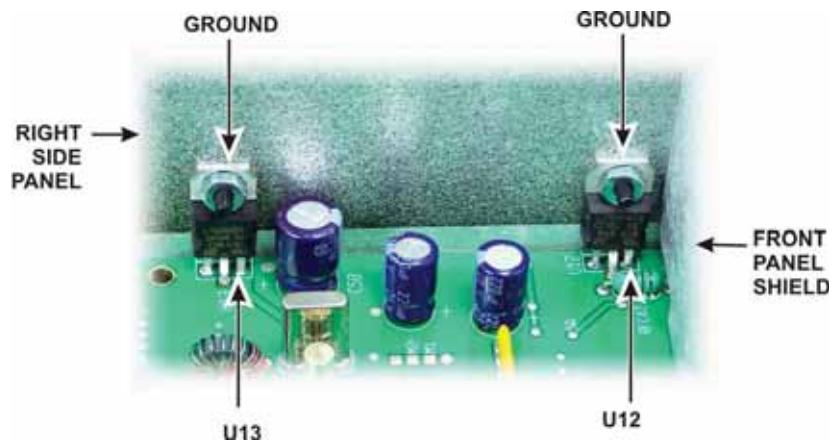

Figure 66. U12 and U13 Test Points.
- Use your DMM to measure the resistance between the terminal on U12 and ground shown in Figure 66 . The resistance must be greater than 500 ohms.
- Use your DMM to measure the resistance between the terminal on U13 and ground shown in Figure 66. The resistance must be greater than 150 ohms.